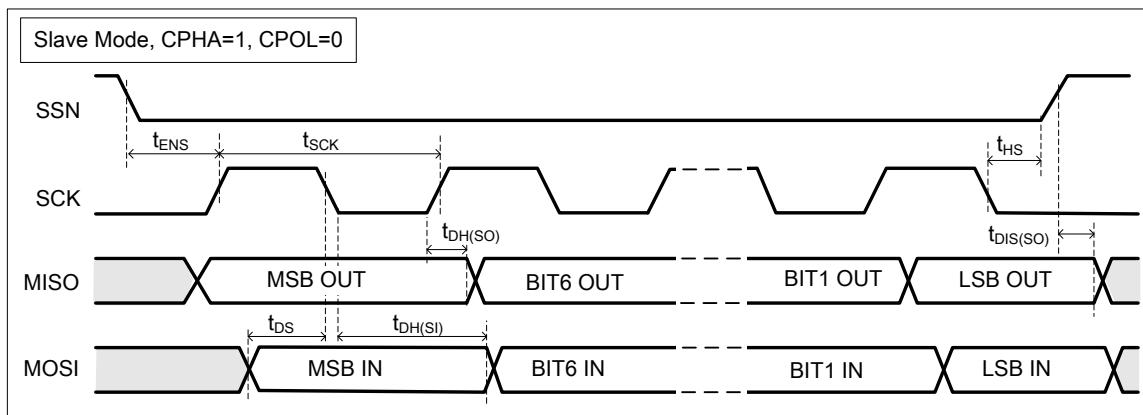
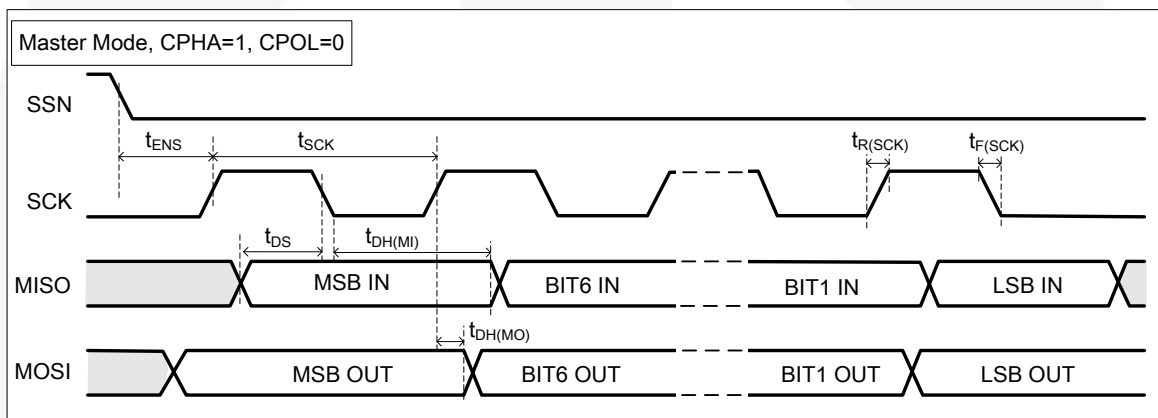

Figure 6. SPI Timing Diagram– Slave Mode
Figure 7. SPI Timing Diagram – Master Mode
9. SPI timing diagrams as Figure 6 and Figure 7.